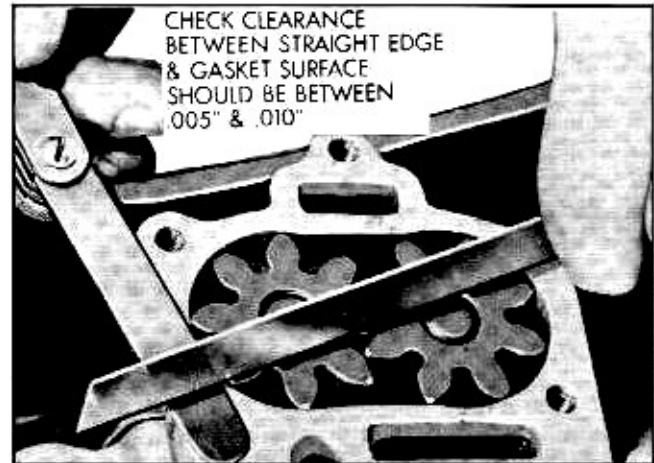

Fig. 6A-13 Measuring Gear to Cover Clearance
4. Place a straight edge over the gears and measure the clearance between the straight edge and the gasket surface (Fig. 6A-13). Clearance should be between .005" and .010". If clearance is less than .005" check timing chain cover gear pocket for evidence of wear.